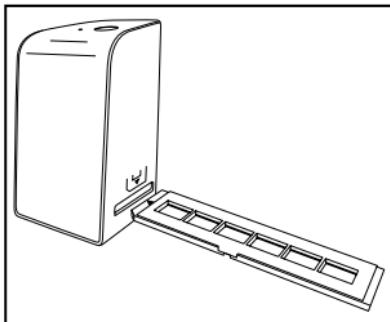

Figure 1
- ◆ Unlock the catch on the front of the negative holder ⑤ and open the holder.
- ◆ Lay the negative in the negative holder ⑤ the right way up. Ensure that holes of the negative strip are placed on the corresponding retaining tabs on the holder, so that the negative strip can not move.
- ◆ Close the negative holder ⑤ so that the lid is firmly shut.
- ◆ Now insert the negative holder ⑤ with the triangle marking at the front and visible into the slot ④ on the right (see figure 1).
- ◆ Push the negative holder ⑤ into the slot ④ until it audibly clicks into the first position. For additional negatives, push the negative holder ⑤ further in until it audibly clicks into the next position.